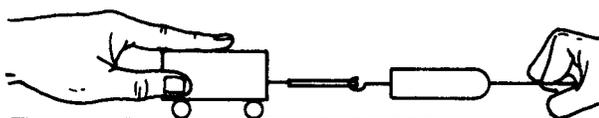

Figure 6-6
2. Hook one end of the rubber band to the cart and the other end to the spring scale. Stretch the rubber band by pulling on it with a force of 150 gf. Hold the cart to keep it from moving (Fig. 6-6).